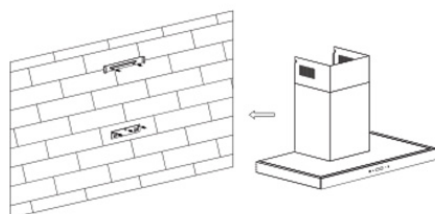

Fig. 7
4. Place the kitchen hood on the hook on the wall. Fig. 7